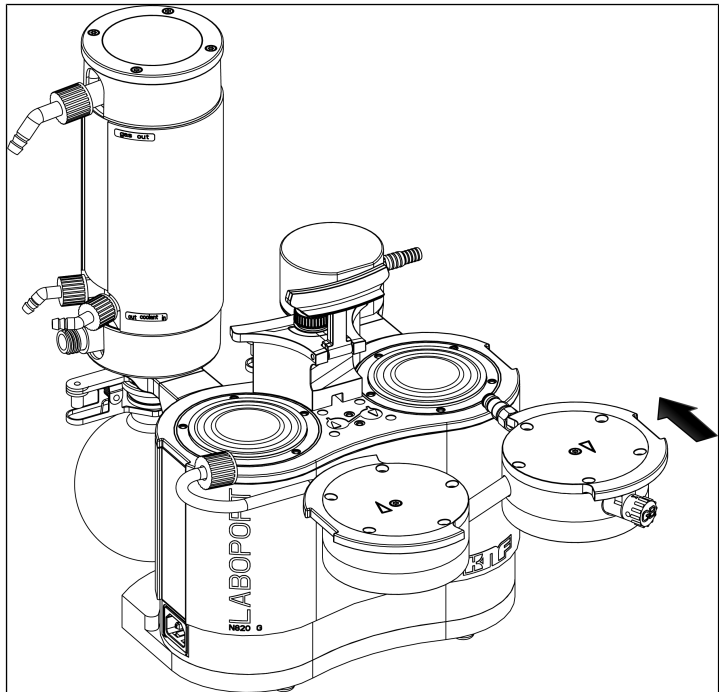

Fig.16: Fit pump head
3. Place the head plate (3) on the intermediate plate (6) in line with the locating pin (5).
4. Place the pressure plate (2) on the head plate (3) according to the pencil line.
5. Tighten the internal head screw (1) in the center of the pressure plate (tightening torque: 1 Nm).
7. Place the two pump heads (consisting of head plate (3), intermediate plate (6) with valve plates/seals (4) and pressure plate (2)) together with the connection tube on the pump housing according to the pencil line (see Fig. 16).
- i** Make sure that the hose connection (11) is inserted straight into the separator connection.
8. Screw in the union screw of the hose connection (11) 1-2 turns by hand.